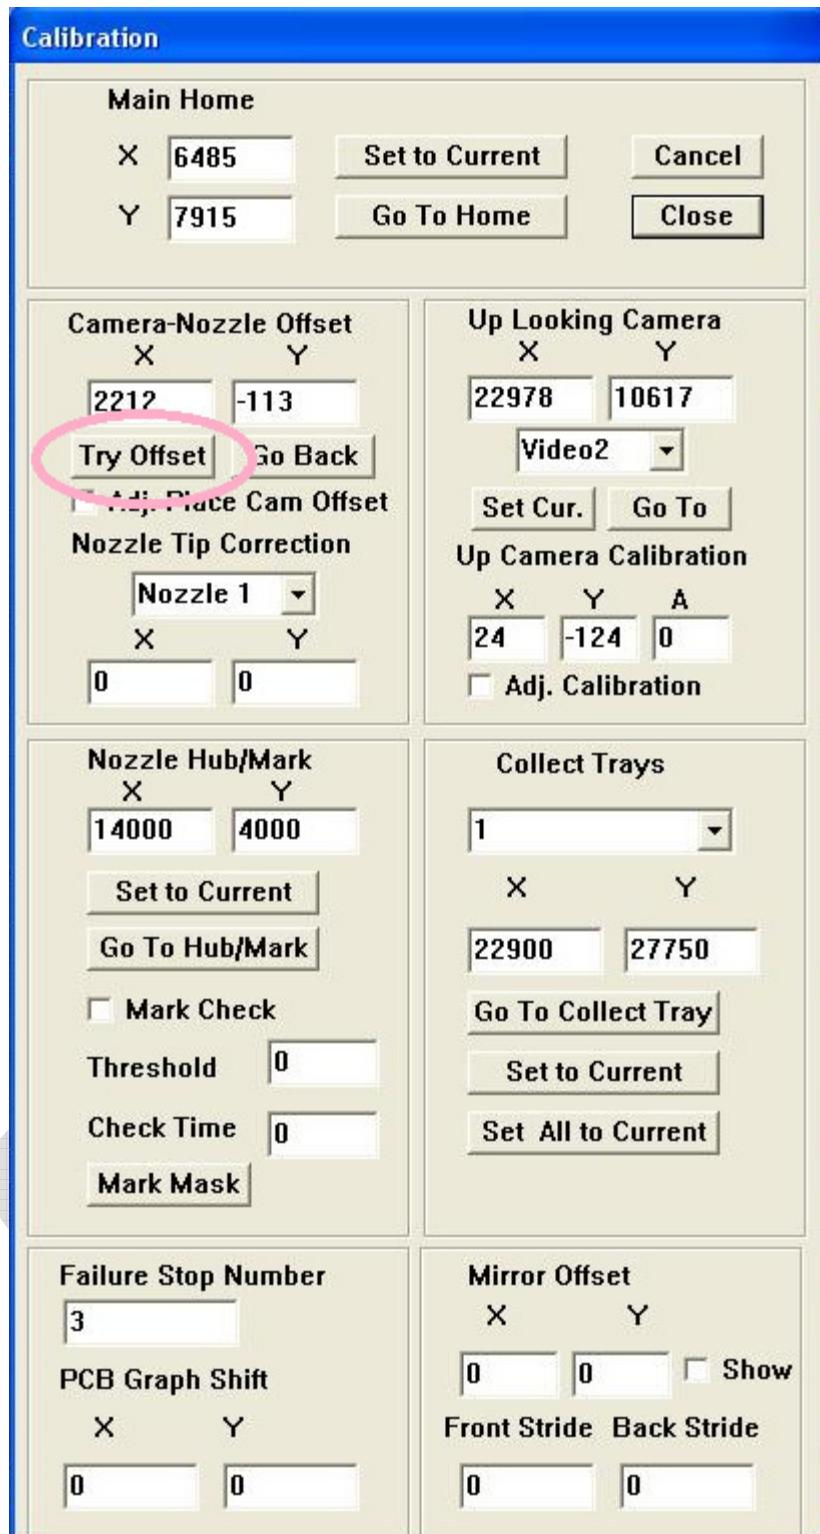

Figure 3.10: CALIBRATE WINDOW with TRY OFFSET BUTTON circled
5. Use the NAVIGATION PANEL of the MAIN WINDOW to move the parts nozzle such that it is physically centered over the component pocket, as in Figure 3.10.